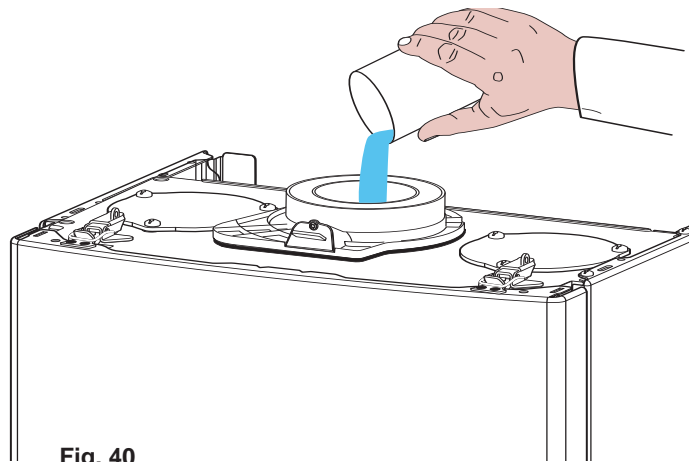

Fig. 40
2. **Fill the condensate trap with water, by pouring 1/2 litre of water into the exhaust flue connector (see Fig. 40). N.B. In the event of a prolonged period of system shutdown, the condensate trap should be filled before any renewed use. A shortage of water in the trap could possibly lead to a temporary leakage of fumes into the air, until it refills itself;**